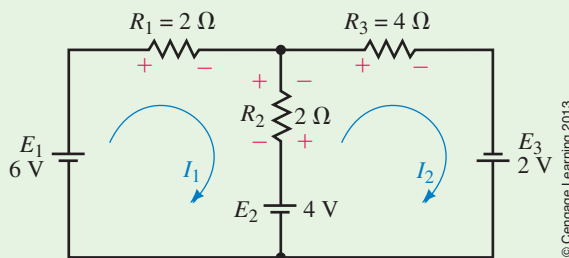

FIGURE 8–22
Find the current in each branch for the circuit of Figure 8–22.
Step 1: Loop currents are assigned as shown in Figure 8–22. These currents are designated I_1 and I_2 .